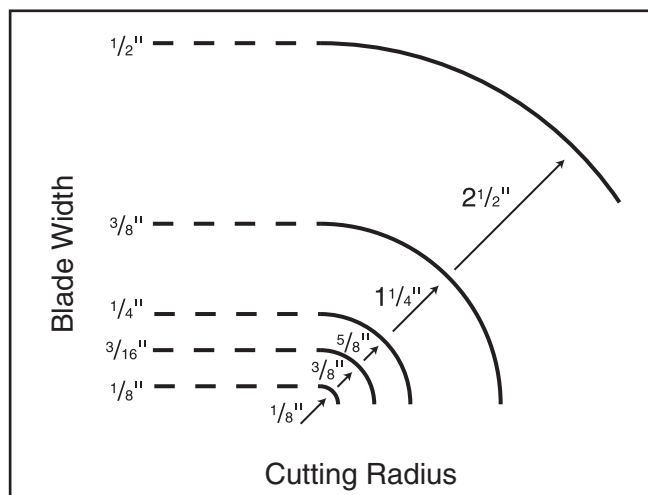

Figure 42. Blade width radii.
- **Curve Cutting:** Use the chart in **Figure 42** to determine the correct blade for curve cutting. Determine the smallest radius curve that will be cut on your workpiece and use the corresponding blade width.